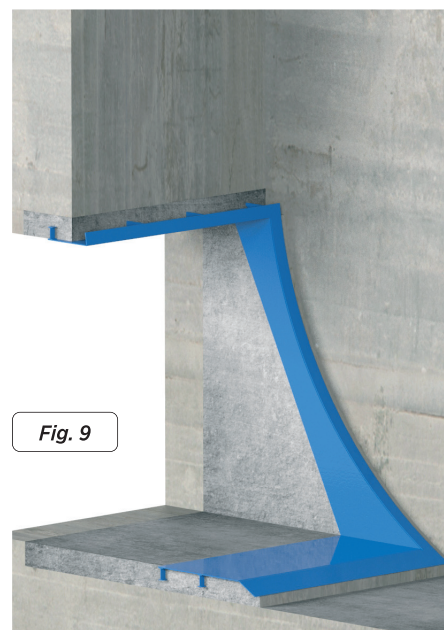

Fig. 9
- Finish the mouth assembly process by carrying out the second concreting. This operation consists of filling in the gaps between the duct and the mouth, ensuring there is no protrusion in the duct (fig. 9).